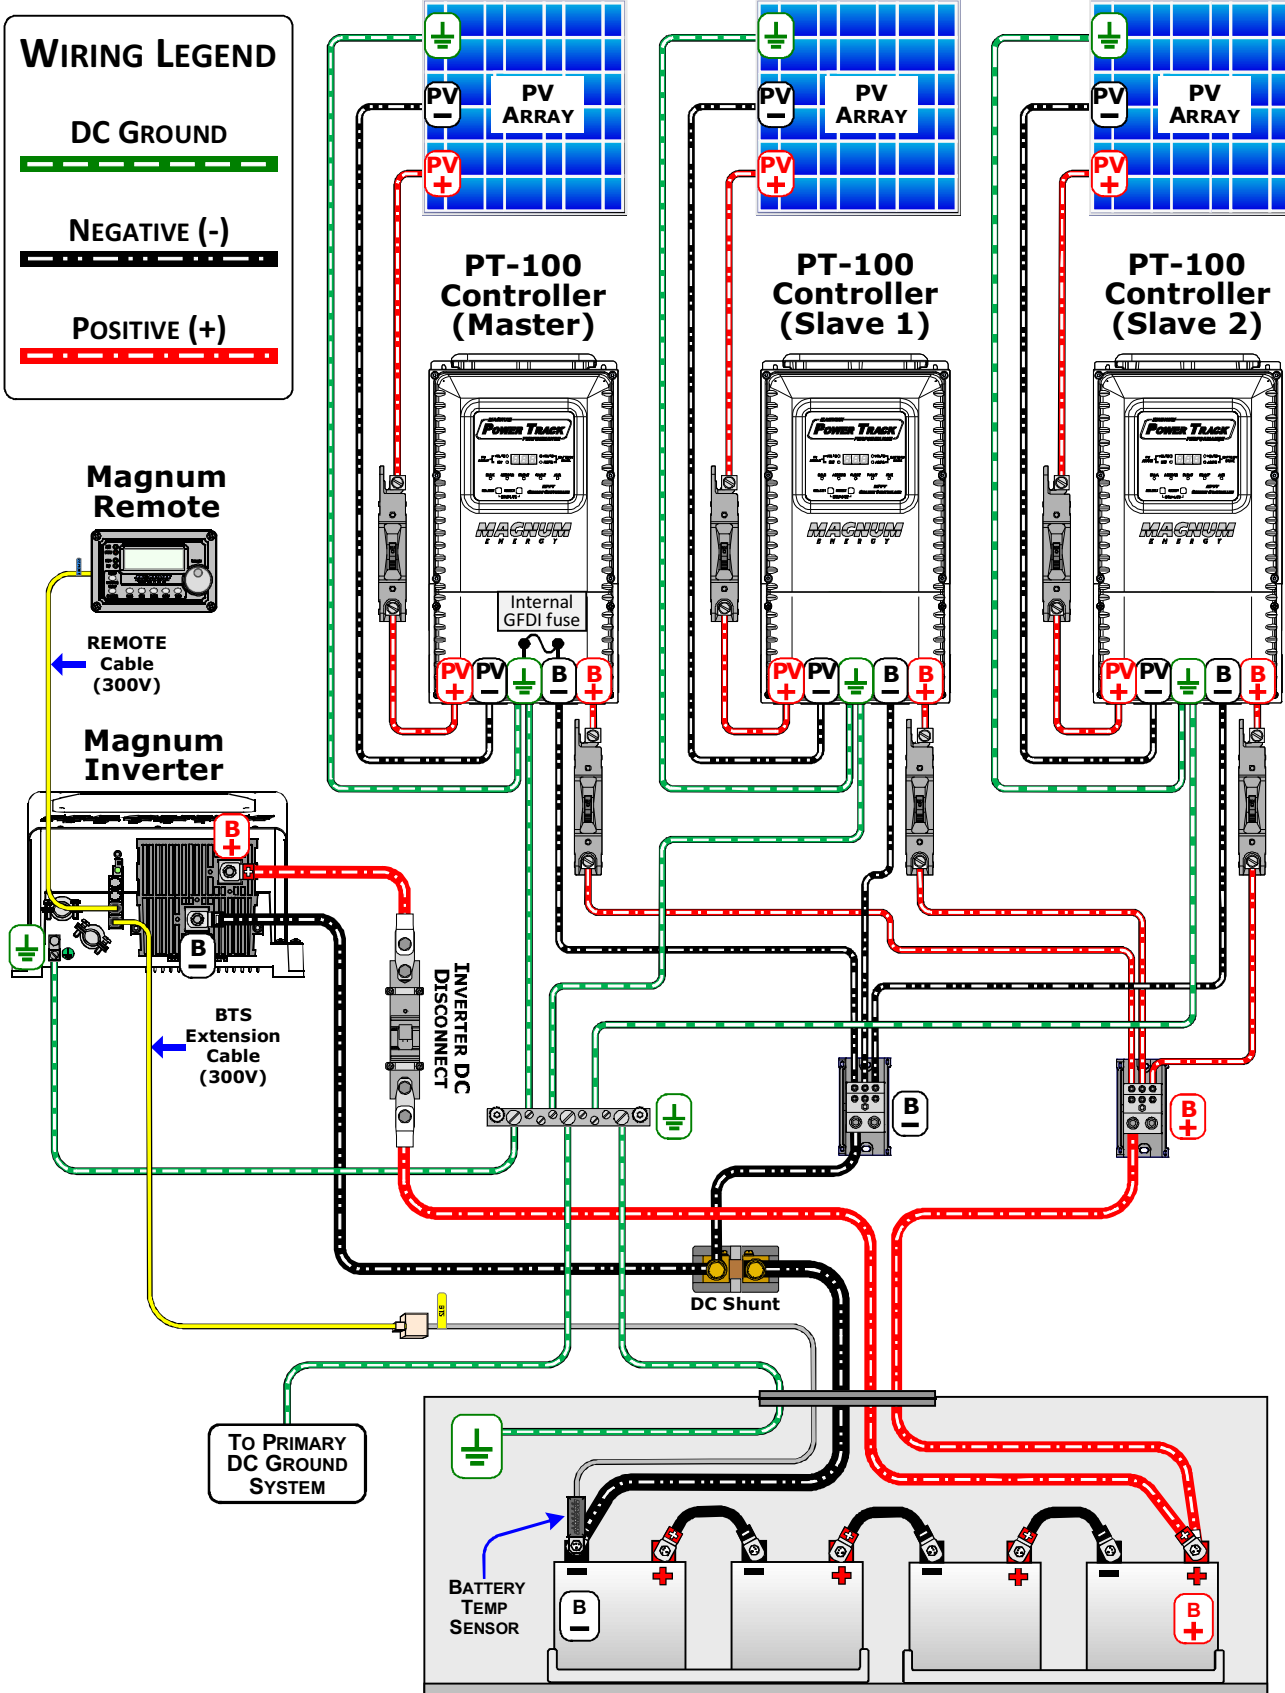

Figure 2-25, Wiring Multiple Controllers
1. Each PT controller must be connected to the same battery bank (see Figure 2-25).
2. The PV input must be connected to its own independent PV array, ensuring that no wires are interconnected between any charge controller (see Figure 2-25).